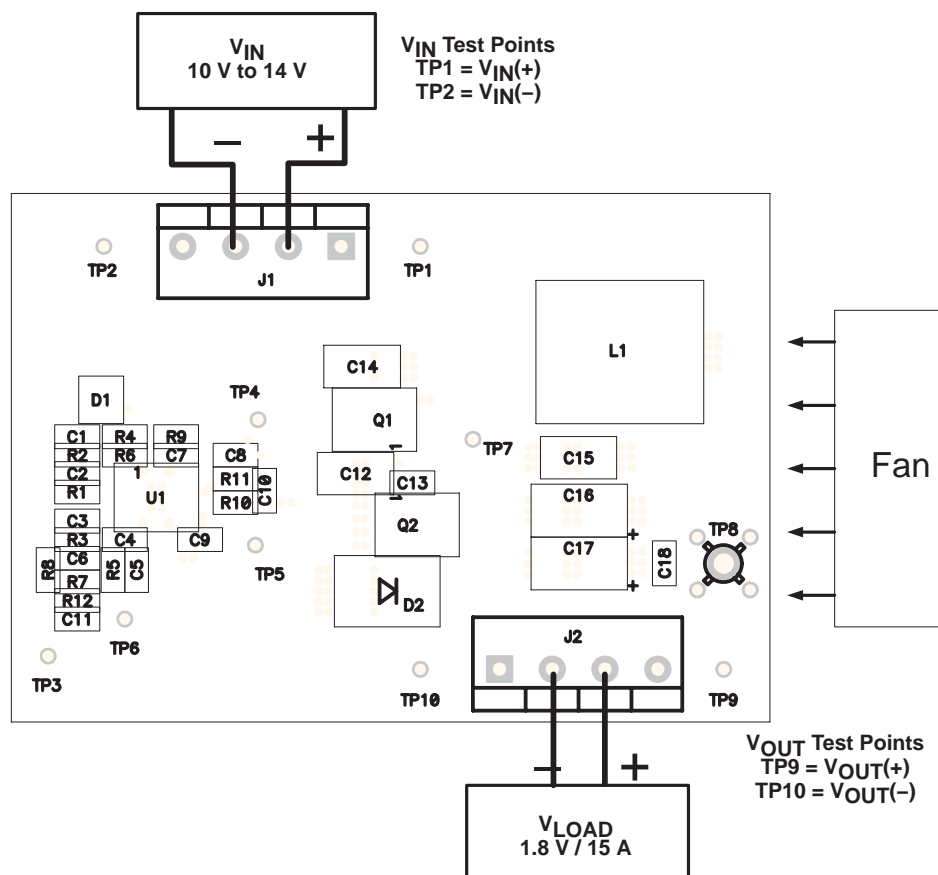

Figure 2. Test Setup
The output inductor L1 value used in the circuit of Figure 2 was selected from equation (4).
Figure 2 illustrates the basic test setup needed to evaluate the TPS40055EVM-001.